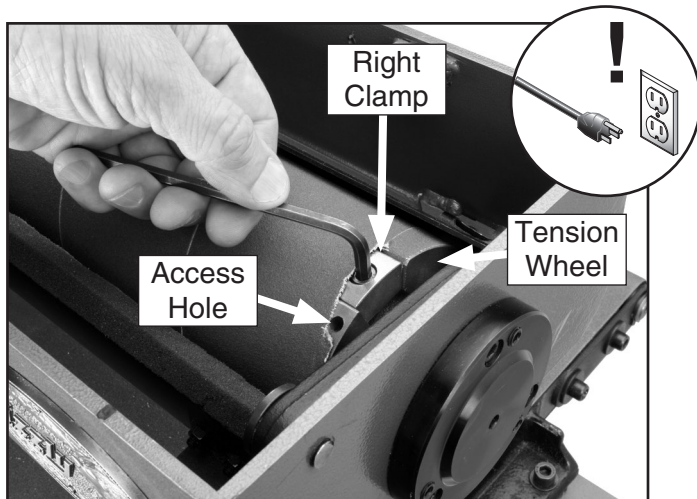

Figure 18. Loosening cap screw on right spring-loaded clamp.
3. Loosen the cap screw on the right spring-loaded clamp as shown in **Figure 18**.